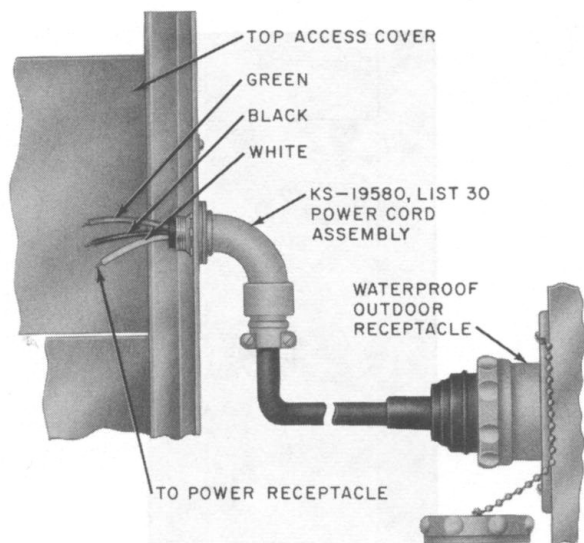

Fig. 22—KS-19580, List 30 Power Cord Assembly for Overhead Entrance
- 3.15 Bring overhead power into an outdoor booth with a KS-19580, List 30 power cord assembly (Fig. 22).